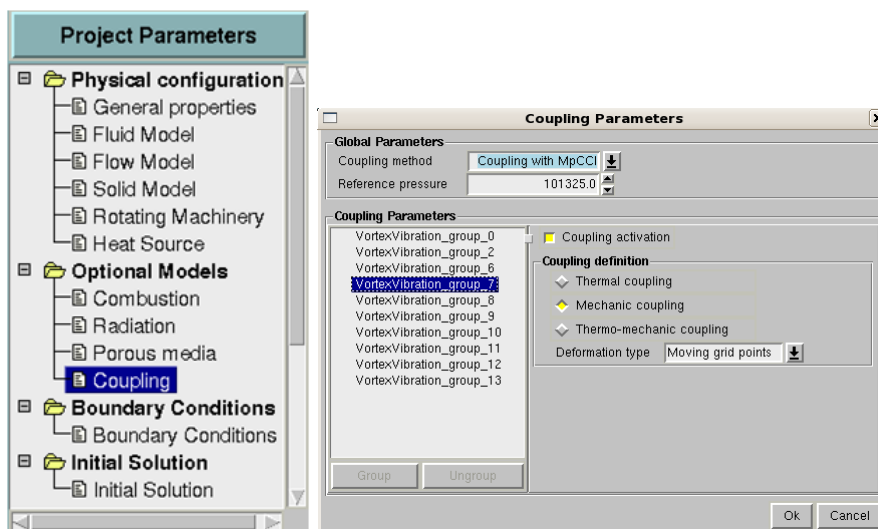

Figure 3: Identifying boundaries in Fidelity Fine Open GUI
- the coupling definition is set up for the corresponding boundary with the corresponding coupling definition (Thermal coupling, Mechanic coupling, Thermo-mechanic coupling) depending on the selected quantity to couple. Figure 3.